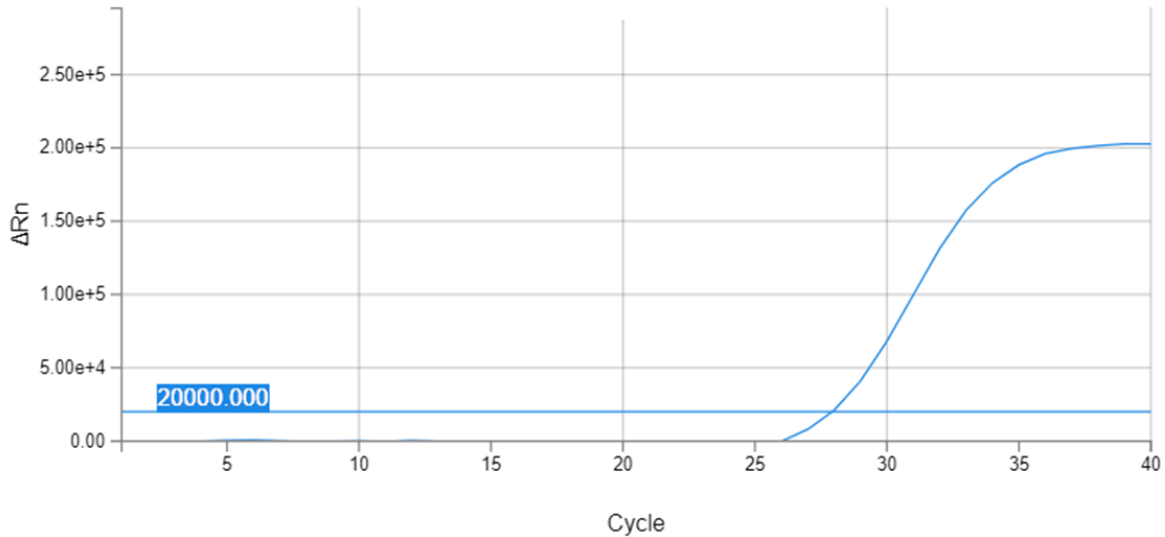

Figure1: The typical “good” qPCR amplification plot has a sigmoidal shape, in which the fluorescence increases exponentially each subsequent cycle.
- Look for qPCR false amplification curves (artifacts) and omit them from analysis; qPCR amplification curves follow a sigmoidal shape (exponential fluorescence increase, figure1) whereas qPCR artifacts have a linear amplification shape (figure2)